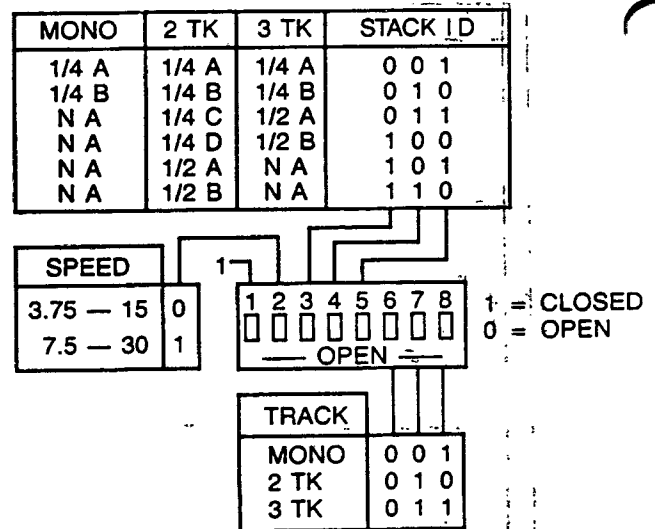

Figure 6-13. Headstack Identification Code
STEP 2 Check that the DIP switch setting on the headstack. Assure that it is valid. (See Figure 6-13, Headstack Identification Codes.)